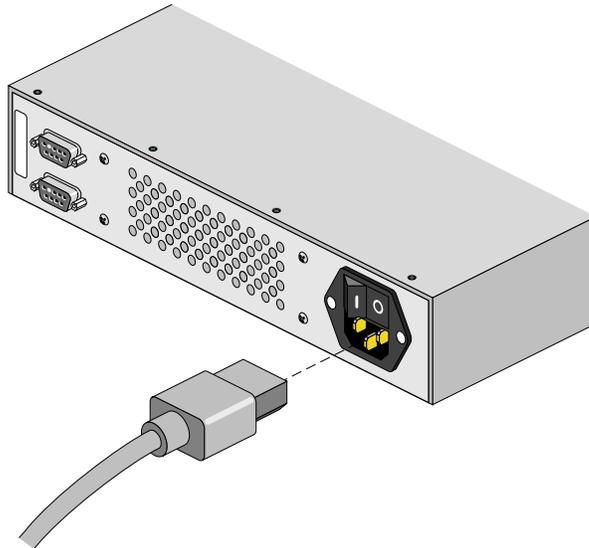

Figure 3-2 Attaching the Power Cord
5. Attach the power cord to the socket on the rear of the hub, as shown in Figure 3-2.